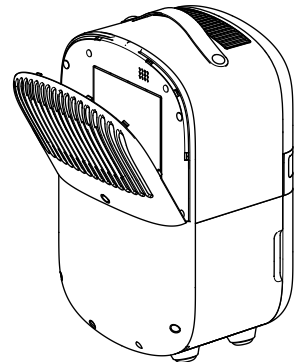

Fig. 7
2. Clean the case with a soft, damp cloth; next, wipe it dry. Use a bit of a gentle detergent to remove persistent grime. Remove the filter cover (6) from the device, remove the HEPA filter (10) and the carbon filter (fig.7). Pre-dust the cover (6) with a delicate brush, wash it in water with detergent, then rinse and dry it. The mesh in the grille (pre-filter) must be completely clean after washing.